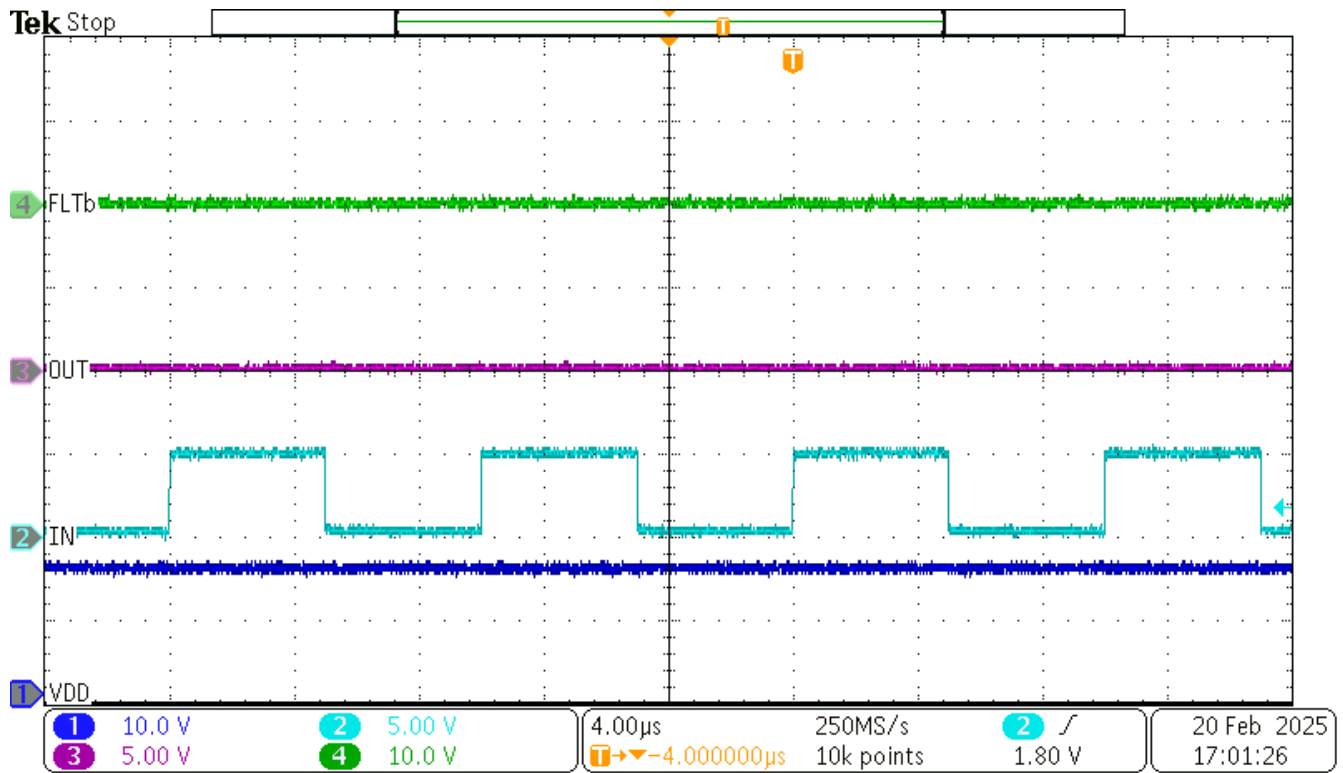

Figure 3-3. Reference Waveforms For When PSU #2 is On
- c. Turn on PSU #2, and check the FLTb and OUT signals. **Both signals** should be low. Refer to Figure 3-3 for details. If the signals are not low, then please recheck PSU #2 connections.